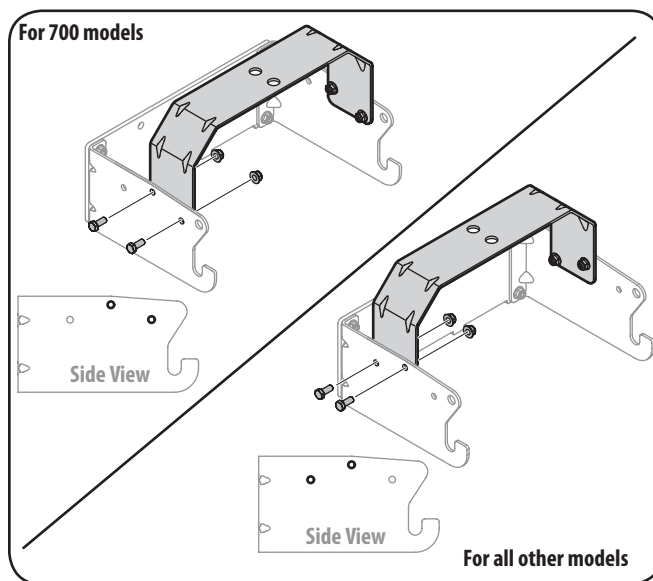

Figure 3-4
2. Flip over assembly and mount the hitch support bracket to the mounting assembly as seen in Fig. 3-4.
**Note:** The holes closest to the mounting hooks are to be used for all 700 model series machines, while the two holes closest to the cross mount are for all other models. The hitch support bracket will need to be flipped to enable alignment of the proper holes depending on the model of machine this rear weight kit is being installed on. See Fig. 3-4.